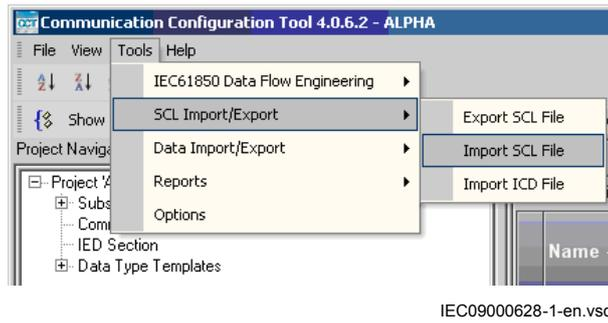

Figure 68: CCT600 Import SCL file
2. Import the SCD file created by PCM600, see Figure 68.